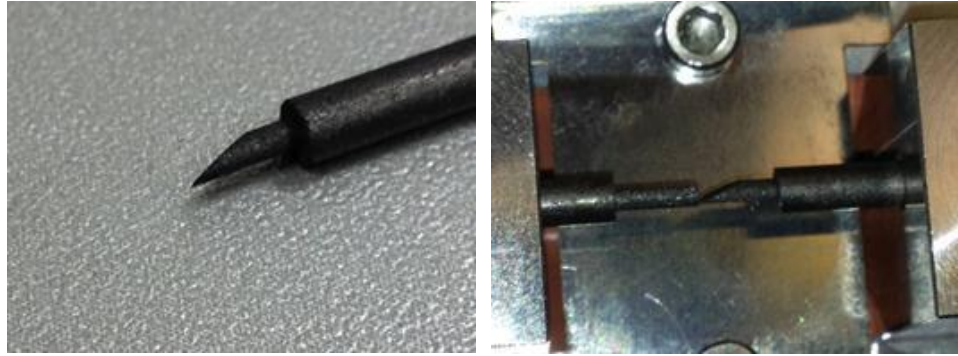

Figure 5-6. (l) A finished wedge-shaped rod; and (r) in position with plain rod
7. Fit the wedge-shaped rod with its point closest to the plate of the insert (see Figure 5-6). Ensure that the sliding clamp of the insert is pulled back approximately 5mm